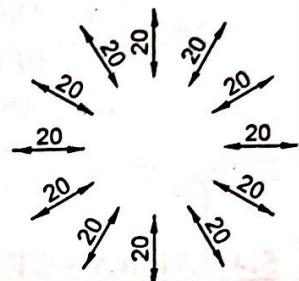

FIG. 12
- Fig. 12 shows the method of placing dimensional values at different positions on the dimension lines.